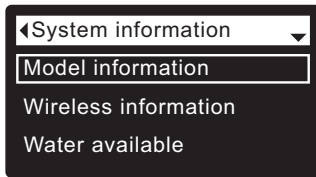

FIG. 117
3. Press the SELECT (O) button to display the System information menu (See Figure 117).
7. When finished viewing an information screen, press the SELECT (O) button. The display will go back to the System information menu (Figure 117). It will also exit automatically if no buttons are pressed for four minutes.